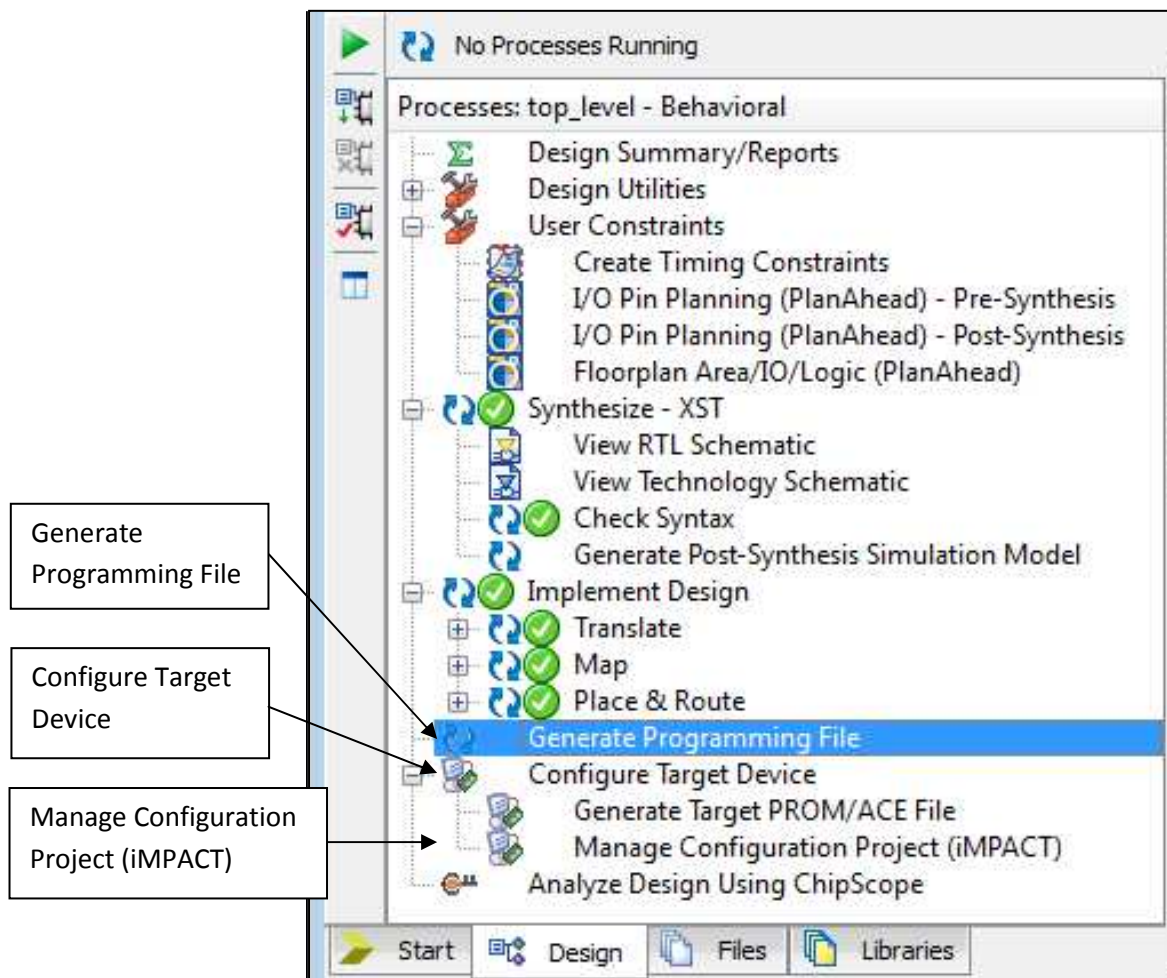

Figure 3.27: Portion of Project Navigator screen, with Implement Design expanded.
1. As shown in Figure 3.27, click on the '+' next to **Configure Target Device**. This will expand out to show the **Manage Configuration Project (iMPACT)** option.